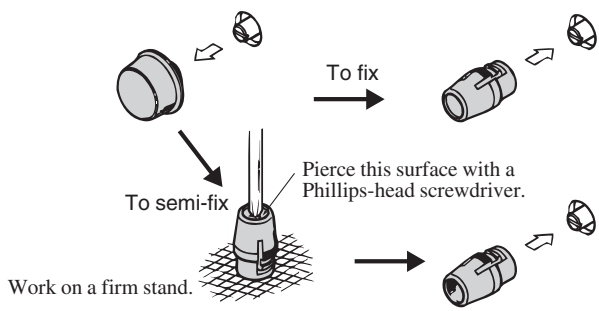

Fig.3-6 Mounting the guard cap
6. As shown in Fig.3-6, pierce the guard cap top with a Phillips-head screwdriver.